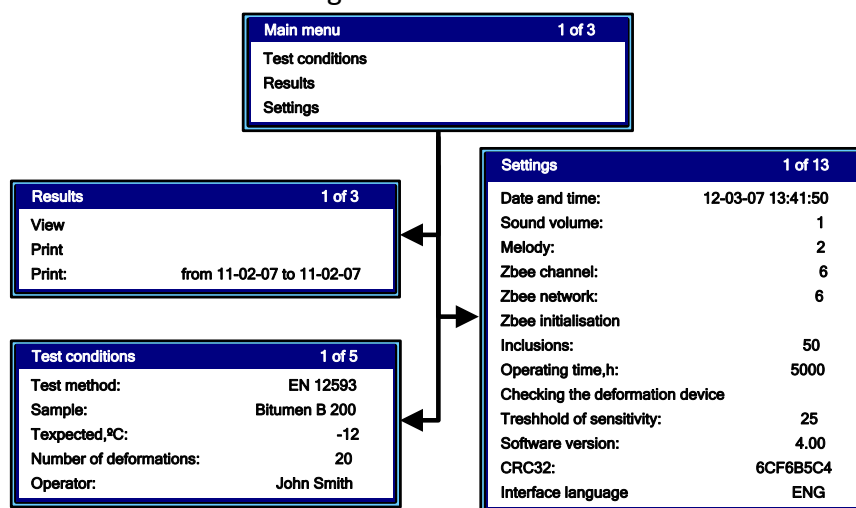

Figure 24 – The menu structure
4.10.1.3 The menu structure is shown in figure 24.